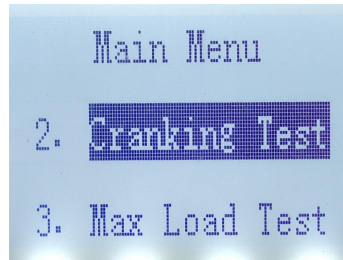

Figure 13
(1) Press the triangle down button to start the system load test. Note: Before running the test, the engine is in the stopped state, as shown in Figure 13: